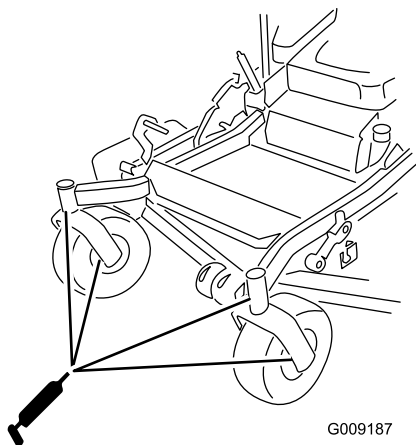

Figure 43
- Install the hex plug and dust cap (Figure 43).